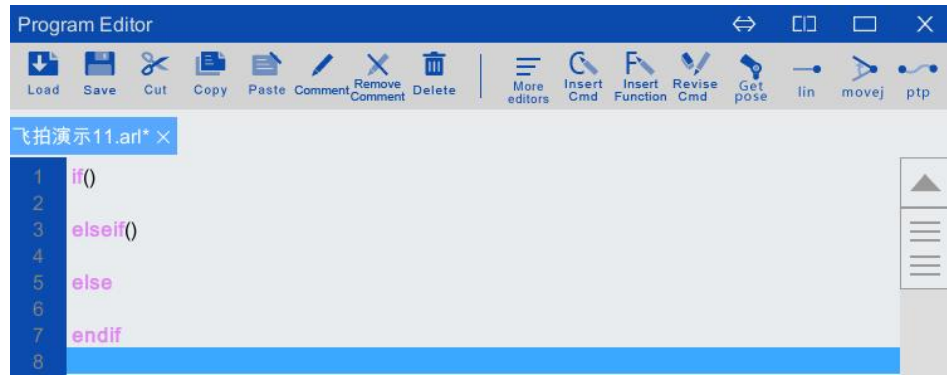

Figure 5-31 Contents of the program frame with the "if" instruction inserted
Step2. Click "Insert Cmd > Logic control > if" option in the program editor toolbar, and the program frame of the if instruction is inserted. Please refer to Figure 5-31.